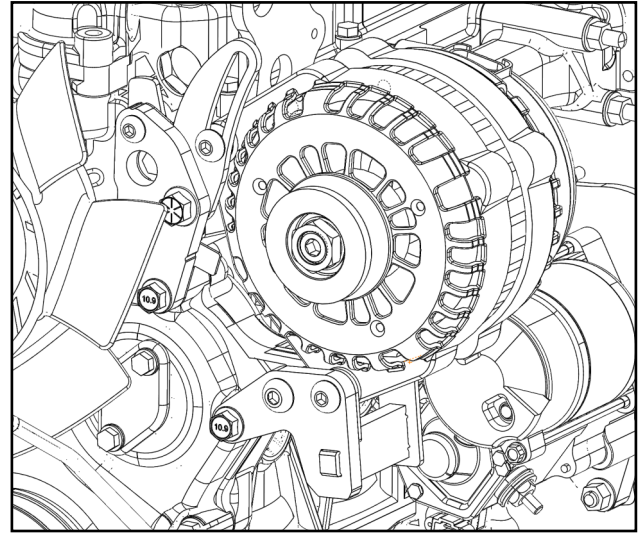

Fig. 3.4 (Install Alternator)
- 3.4** Install Alternator into the recently installed Alternator Mounting Brackets per fig 3.4. Lower bolt is 3-1/2" long and upper bolt is 3" long. Note: Only hand tighten lower locking nut, the A/C Unit's ground to be installed at a later step.